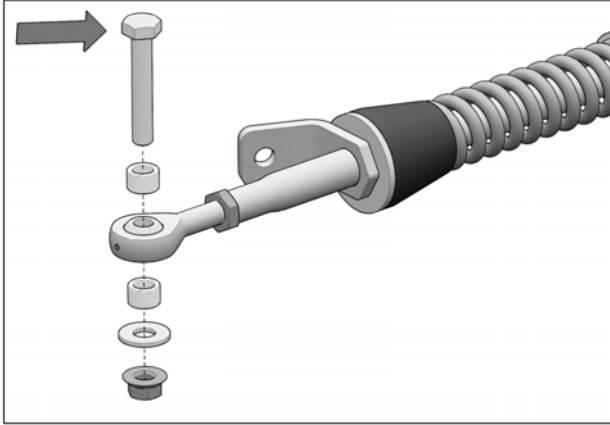

Fig. 14
3. Remove bolt, washer and bushings from front stabilizing rod end as shown in Fig. 14